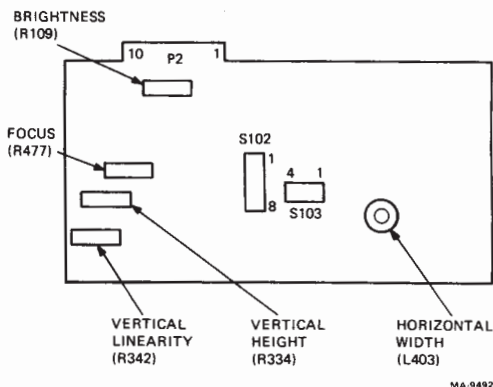

Figure 3-3 Video Monitor Board Adjustments
3. Adjust the brightness, using R109 (Figure 3-3), until the display raster is visible. Then back off on the adjustment until the raster disappears.
2. Adjust the vertical height, using R334 (Figure 3-3).
2. Adjust the vertical linearity, using R342 (Figure 3-3).
2. Adjust the focus, using R477 (Figure 3-3), for the best overall character presentation.